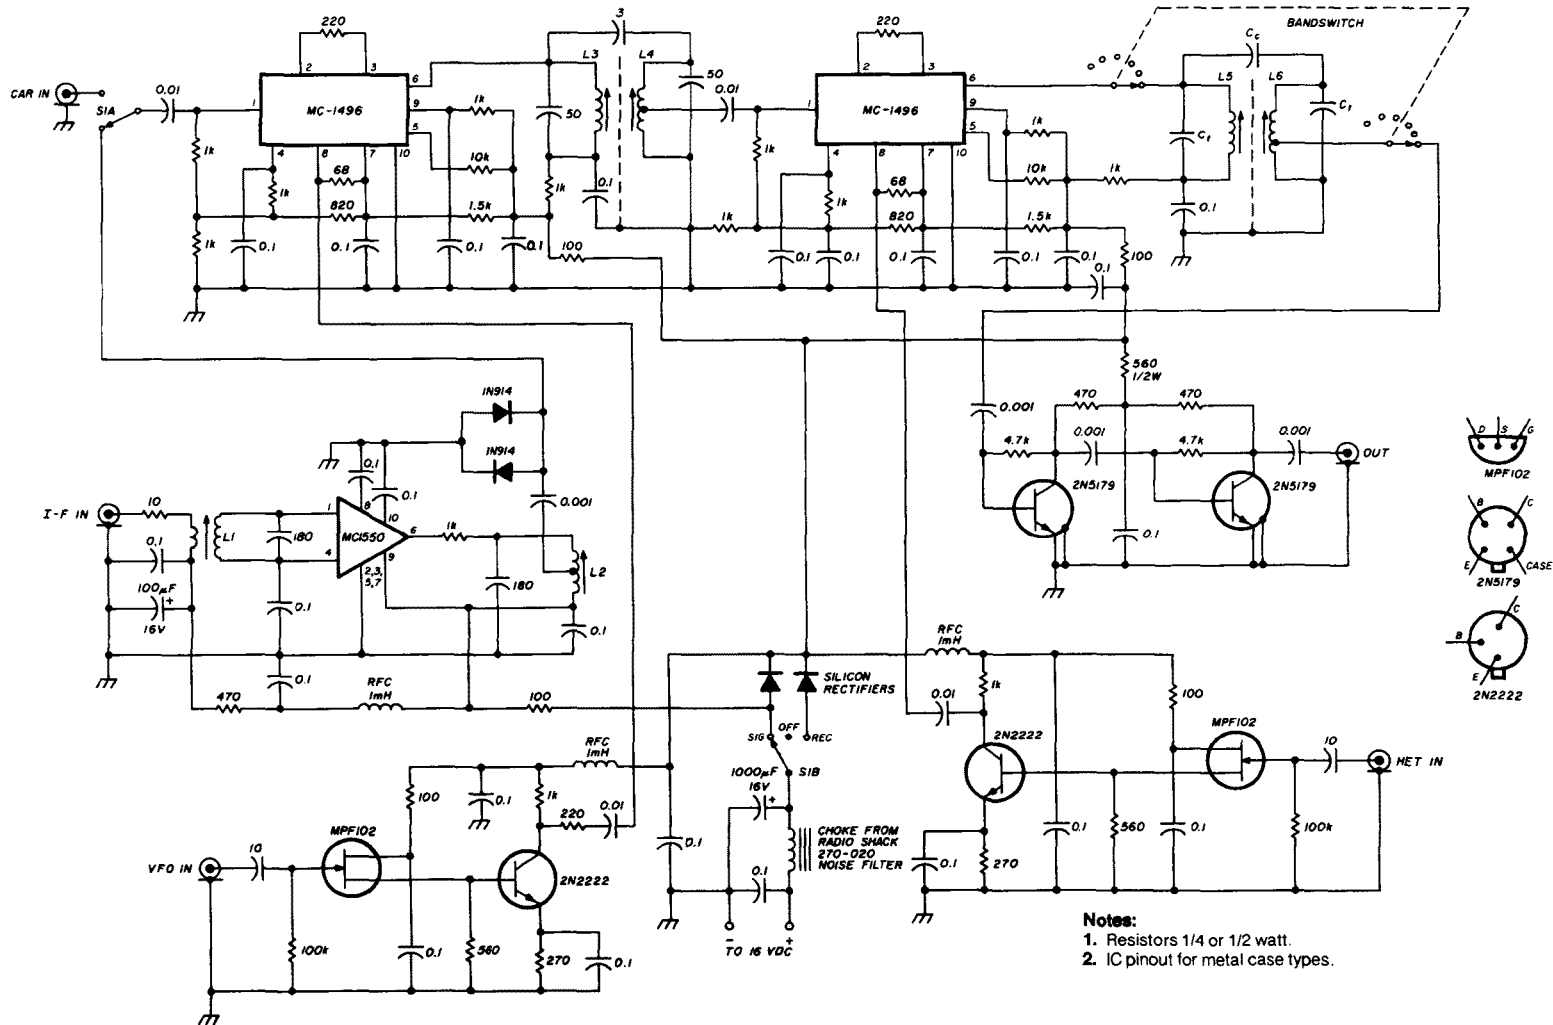

fig. 1. Schematic of the counter mixer circuit designed for the Kenwood TS-520-SE Amateur-band transceiver. Circuit is easily adaptable to other transceivers.
This particular unit (fig. 1) is for use with a Kenwood TS-520-SE. This transceiver has the oscillator outputs as well as a dc-supply connection available on the back panel. To provide an i-f output, another phono jack is installed on the back panel and an emit-
2. Adjust L3, L4 (fig. 1) for maximum signal at pin 1 of the second mixer (MC1496) with the transceiver tuned to about band center.
table 1. Coil data for the counter mixer circuit in fig. 1
Many of the receivers shown in the handbooks don't include an rf stage ahead of the mixer. This receiver was first tried using a double-tuned circuit directly into the mixer. However, the circuit was mounted in the chassis and capacitive coupling wasn't satisfactory. At night the shortwave broadcast stations came through. By using this simple rf stage, the selectivity problem was resolved. You can use whatever toroid forms you can find. The T-80-2 forms are probably too large, but these are what I have used. They have a red core and are about 1 inch (25.5 mm) in diameter. Resonance can be checked by holding a grid-dip oscillator to the hot end or by placing a turn or two of wire around the core and checking with the grid-dip oscillator. The input coil was mounted on the chassis topside and the output coil was mounted underneath. Fig. 1 shows the circuit.
fig. 1. Schematic of the solid-state 40-meter receiver. The MPF-102 rf stage helps selectivity, especially when foreign broadcast stations appear at night. PC boards are used, which were made using the tape-and-etching method. Low-frequency circuits could be mounted on perf boards. The 5.5-MHz filter was picked up at local flea market.